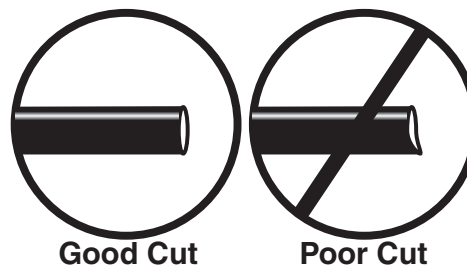

fig. 12
WHEN CUTTING OR TRIMMING THE AIR LINE, USE A HOSE CUTTER, A RAZOR BLADE OR A SHARP KNIFE. A CLEAN, SQUARE CUT WILL ENSURE AGAINST LEAKS. DO NOT USE WIRE CUTTERS OR SCISSORS TO CUT THE AIR LINE. THESE TOOLS MAY FLATTEN OR CRIMP THE AIR LINE, CAUSING IT TO LEAK AROUND THE O-RING SEAL INSIDE THE ELBOW FITTING (FIG. 12)
7. On the passenger side only, place the provided thermal sleeve (S) on the air line near the exhaust.
8. Cut off air line leaving approximately 12" of extra air line. A clean square cut will ensure against leaks (see Fig. 12). Insert the air line into the air fitting. This is a push to connect fitting. Simply push the air line into the 90° swivel fitting until it bottoms out (9/16" of air line should be in the fitting).
- a. Check the air line connection by deflating the spring and removing the line by pulling the collar against the fitting and pulling firmly on the air line. Trim 1" off the end of the air line. Be sure the cut is clean and square (see Fig. 12). Reinsert the air line into the push-to-connect fitting.